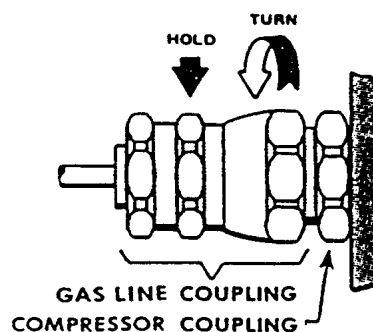

Figure 3 Disconnect Gas Line from Compressor
2. After breaking the connection, hold the coupling adapter with one wrench. Remove the gas line coupling from the compressor coupling with the second wrench. See Figure 3.